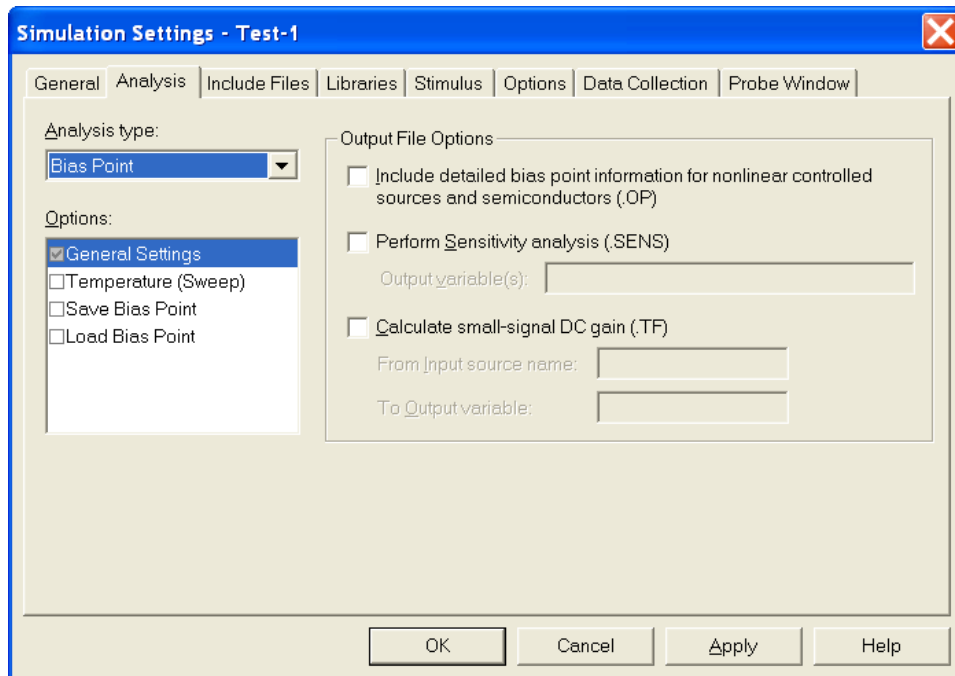

图 12. Be sure select “Bias Point”
2) This time we only test the static voltage and current. Therefore be sure to select “Bias Point”, and then “OK”. (图 12)